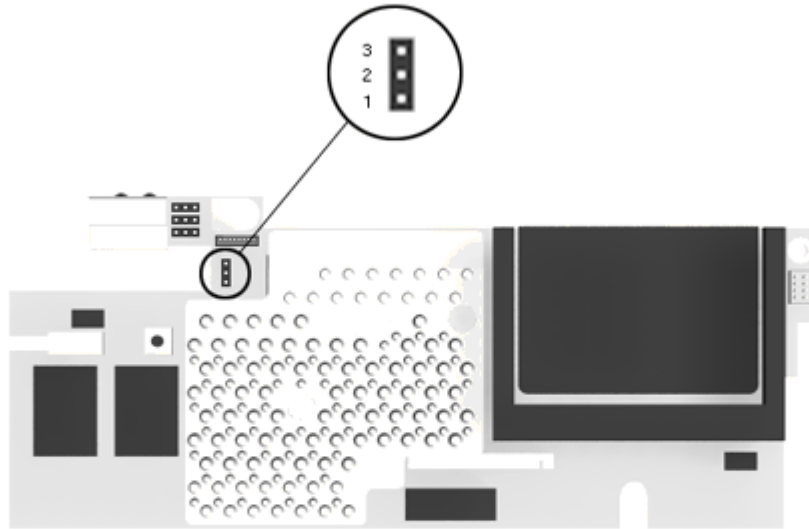

Figure 2-1. Password Jumper
3. Move the jumper on JP1 (Figure 2-1) from pins 2 and 3 to pins 1 and 2.